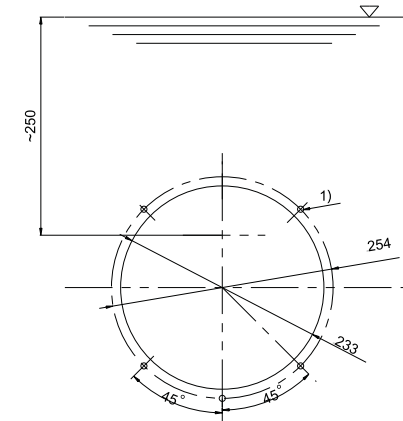

Figure 1
a) Use 4 screws (M6\*20) to fix the counter current jet plate to the pool wall hole. ( Figure 1)